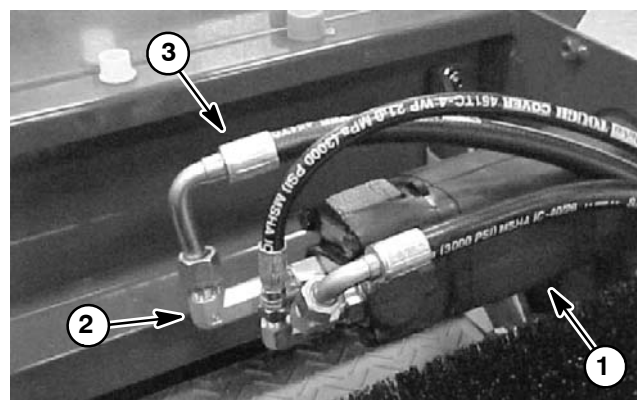

Figure 25
B. Disconnect hydraulic hose from the longer elbow fitting on the conveyor motor (Fig. 25). Install a clean steel cap onto the fitting.